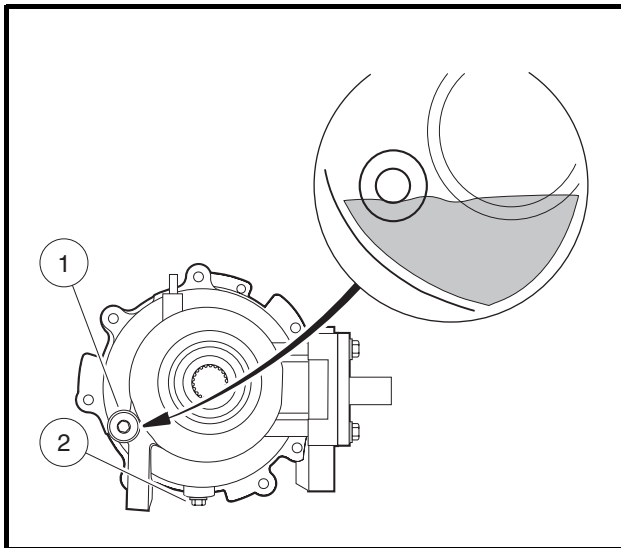
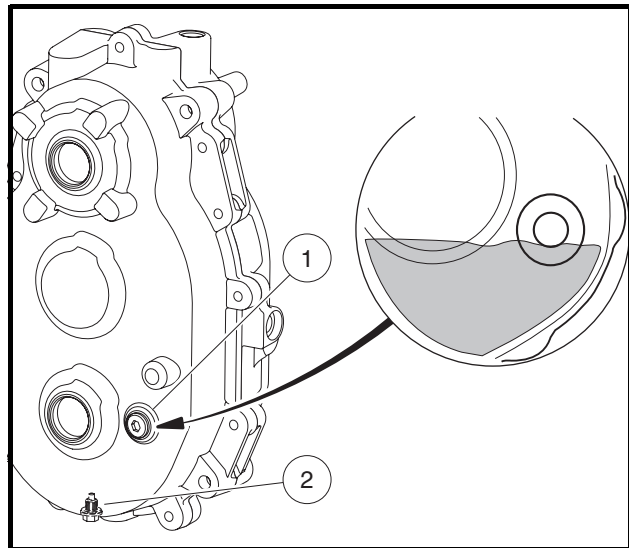
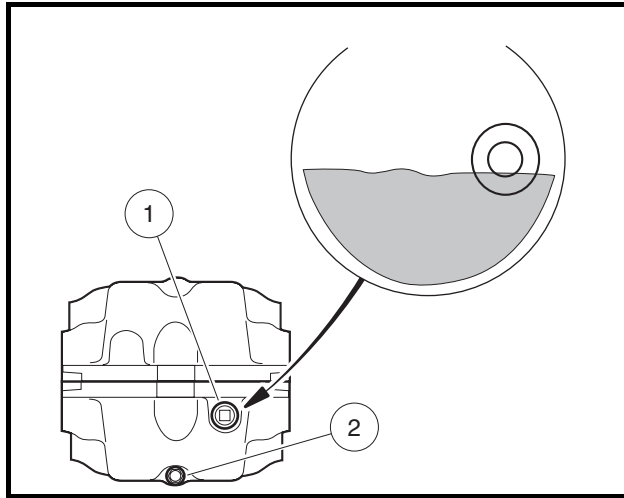

Figure 30 Front Differential Lubrication Level
Figure 31 Transmission Lubrication Level
Figure 32 Rear Differential Lubrication Level
Each gearcase component is equipped with two oil port plugs (1 and 2) (**Figure 30**, **Figure 31**, and **Figure 32**). When the vehicle is on a level surface, use the level indicator hole (upper plug) (1) as a lubricant level indicator. Lubricant level should be even with the bottom of level indicator hole (1).
Use the lower plug (2) for drainage (**Figure 30**, **Figure 31**, or **Figure 32**). Remove both plugs to allow the lubricant to drain faster. **See preceding NOTE.**
Clean and install the drain plug (2) and washer before filling the front differential with new lubricant (**Figure 30**). Tighten the drain plug to 9 ft-lb (12 N·m). Use a funnel when filling the front differential through the lubricant level indicator hole (1). **See Periodic Lubrication Schedule on page 37.** Tighten the level indicator plug to 10 ft-lb (14 N·m).
Clean and install the drain plug (2) before filling the transmission with new lubricant (**Figure 31**). Tighten the drain plug to 8 ft-lb (11 N·m). Remove the fill plug on the top of the transmission case and use a funnel when filling with lubricant. **See Periodic Lubrication Schedule on page 37.** Apply Loctite 567 to the threads of the fill plug and tighten to 21 ft-lb (28 N·m).
Clean and install the drain plug (2) and washer before filling the rear differential with new lubricant (**Figure 32**). Tighten the drain plug to 8 ft-lb (10.8 N·m). Use a funnel when filling the differential through the lubricant level indicator hole (1). **See Periodic Lubrication Schedule on page 37.** Apply Loctite 567 to the threads of the level indicator plug and tighten to 21 ft-lb (28 N·m).